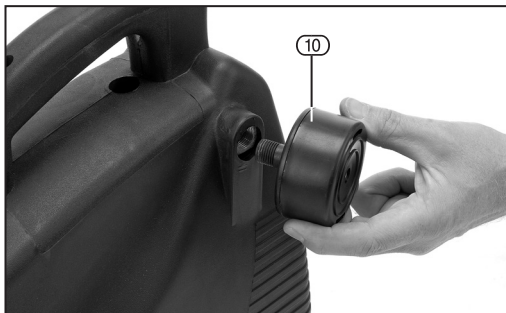

FIG. 1
6.1 FITTING THE AIR FILTER - FIG. 1